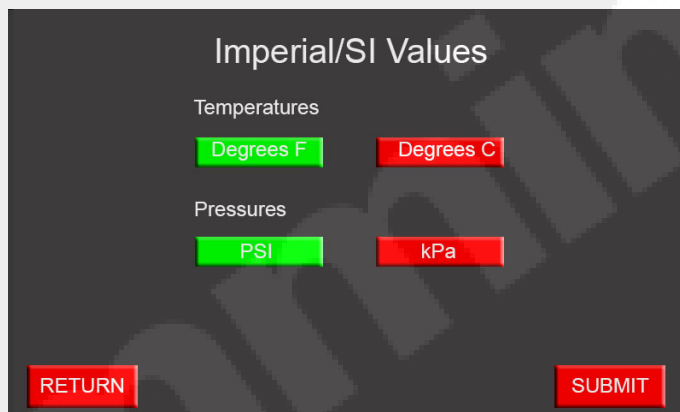

Figure 4-15 Typical Parameter Units screen
The Imperial/SI Values screen, shown in Figure 4-15, allows the operator to select Imperial or *Système Internationale* (SI) (also known as metric) units of measurement. The default units of measure are Imperial units of degrees in Fahrenheit and pounds per square inch (PSI), but the user may elect degrees in Celsius or kilo Pascal (kPa).